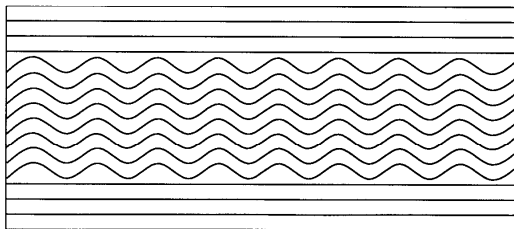

FIGURE 3
- Baggy center, tight edges (figure 3). The web being longer in the center than the two edges, in the machine direction, causes this condition. If you were to lay material with this characteristic, flat, then you would see ripples or bubbles develop in the center while the edges were straight and flat. In a converting process, webs with this material characteristic will wrinkle because most of the tension that is typically evenly distributed across the full width is mostly distributed on the shorter (machine direction) edges than longer (machine direction) center. Tensile stress on the edges will create lateral compression in the center of the web, causing wrinkles.